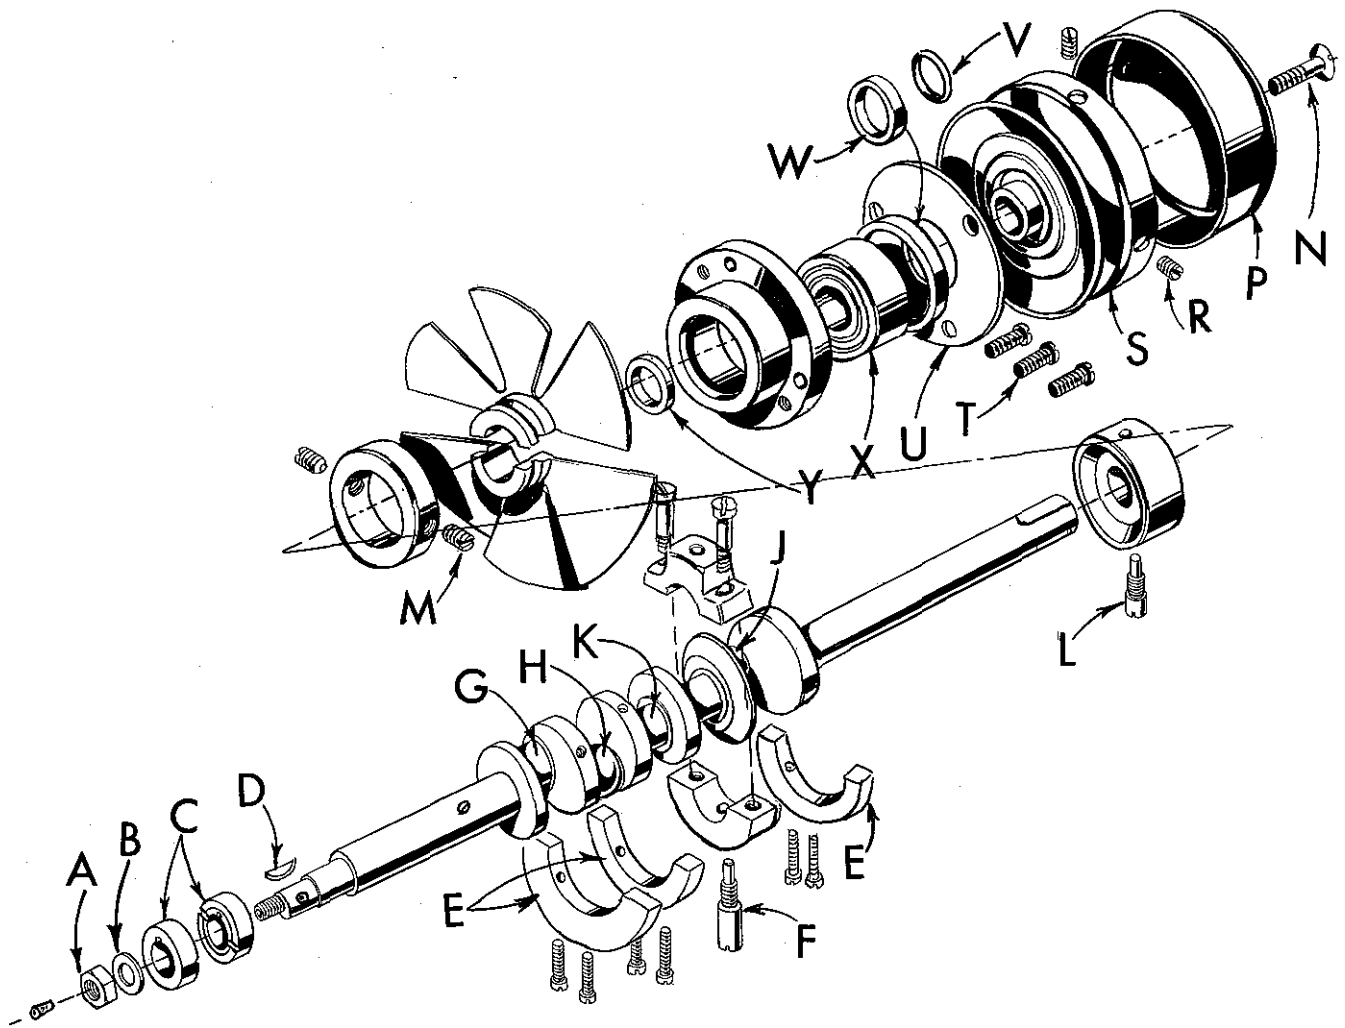
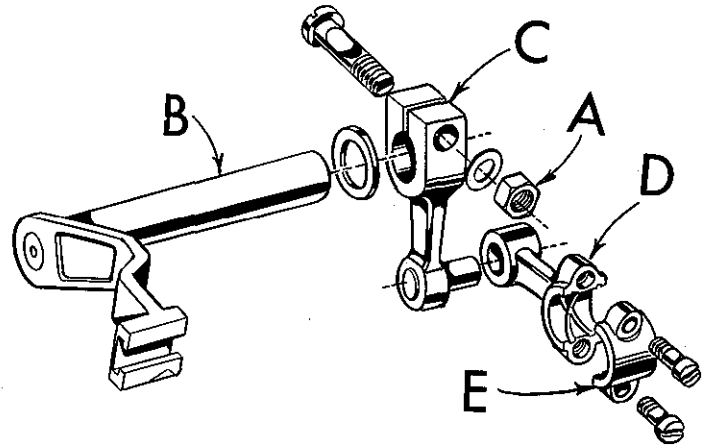

Fig. 15
Fig. 16
3. Remove feed eccentric nut (A, Fig.15 ) and washer (B), and, with the aid of the eccentric extractor, slip off the eccentrics (C).
4. Remove key (D).
5. Remove three counterweights (E). Identify these counterweights so that they will be re-assembled in the proper places.
6. Remove screw (F) which holds crankshaft split bearing. This screw is reached through bottom of bed casting.
8. Loosen clamp nut (A, Fig. 16) which holds upper knife driving arm (B). Access to clamp nut is through top cover. Draw driving arm to the left until upper knife driving lever (C) and connecting rod (D) drop, allowing removal of bearing cap (E). This is at bearing point (K, Fig. 15) on crankshaft. Observe same precautions when re-assembling cap as described in 7 above.
9. Remove screw (L, Fig. 15) which holds inner right crankshaft bearing. This screw is reached through bottom of bed casting.
10. Loosen two screws (M) in fan collar; remove both halves of cooling fan.
11. Remove screw (N); take off pulley cap (P).
12. Loosen two screws (R); remove pulley (S).
13. Remove three screws (T); take off bearing retaining plate (U); also, spacer collars (V) and (W) may be removed at this time.
15. If necessary to replace ball bearing (X), it should be pressed off shaft on an arbor press. In replacing bearing it must be pressed on carefully until it seats against ground thrust washer (Y).